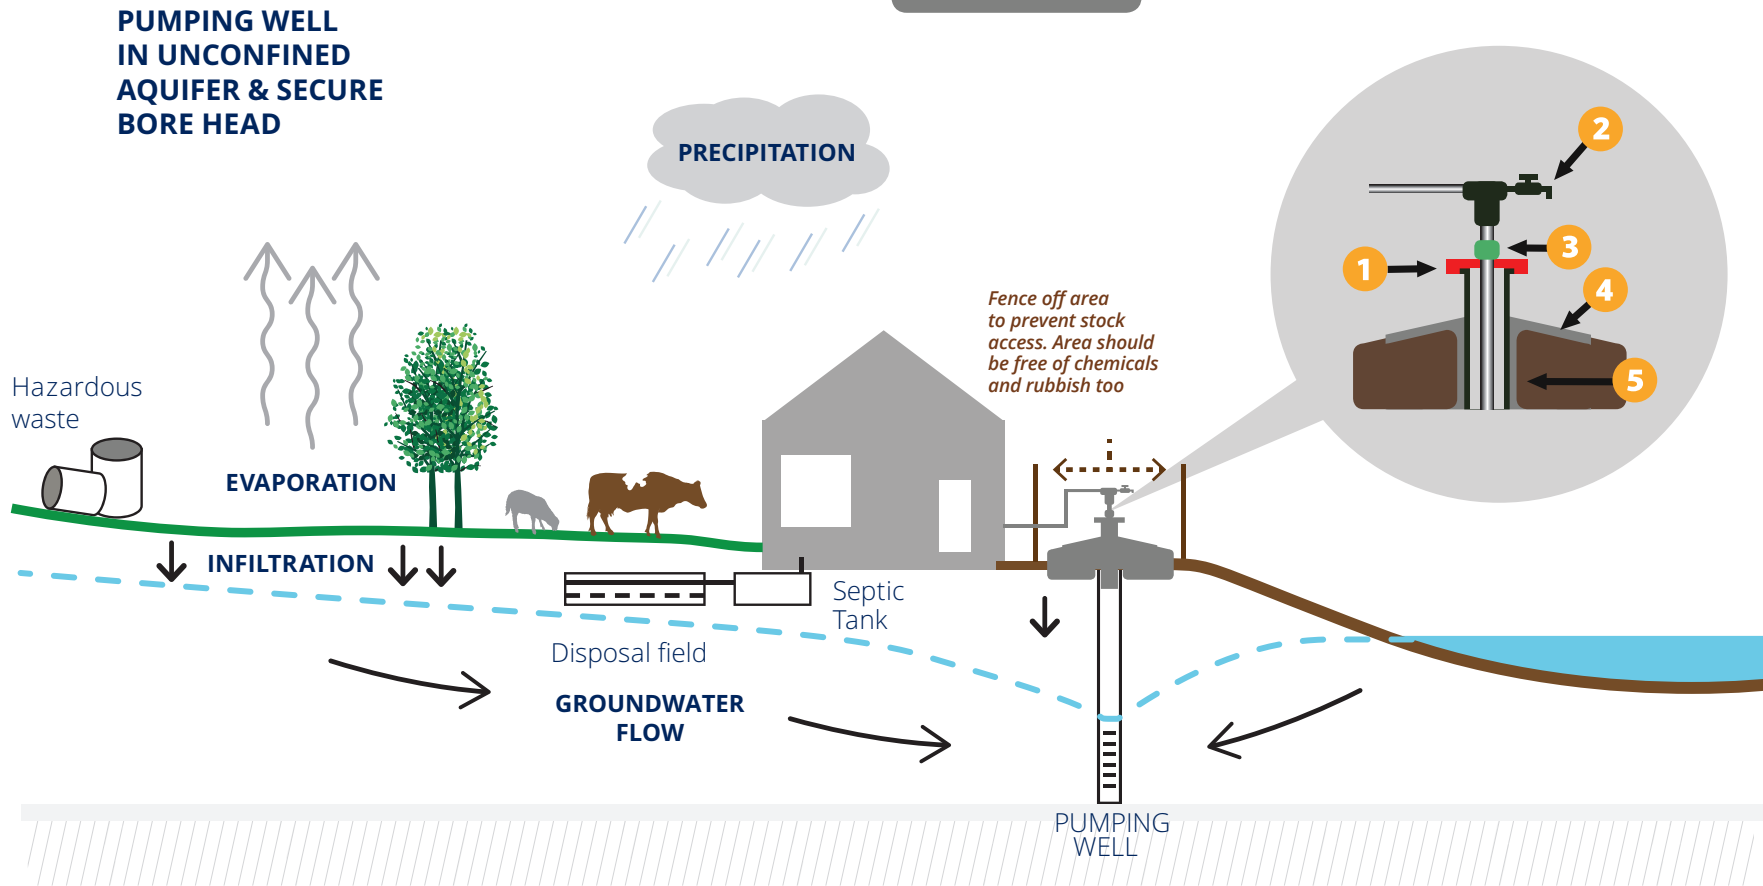

Figure 1: risks to groundwater quality and maintenance of a secure borehead
Generally, the part most vulnerable to contamination is the borehead because it provides the physical connection between the land surface and the underlying aquifer (Figure 1).
3. A concrete seal (apron) is to be placed at ground level around the outside of the casing. The seal must be sufficient to prevent foreign material, surface water, spillage or other leakage entering the space between the casing and the wall of the borehole. A seal with a minimum of 250mm radius and 100mm thickness around the borehead is recommended. The concrete apron needs to slope away from the bore in order to divert surface water away from the borehead (Figure 1).